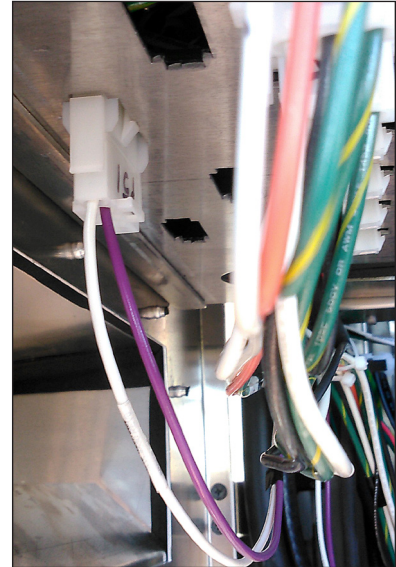

Figure 20: Contactor Signal Harness
21. Connect the purple/white contactor signal harness from the top section term panel to the bottom section term panel. Refer to **Figure 20** and **DWG-4626307**.